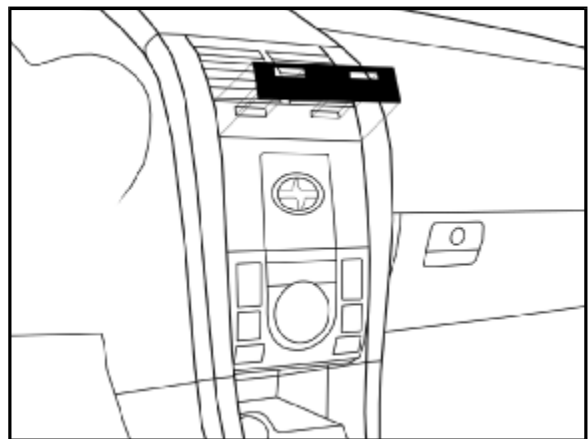

Fig. E1
- ⚠ B. Align part uniformly to edge of factory components. Edge of appliqué should be flush to edge of factory component, ±1.0mm. (Fig. E1).